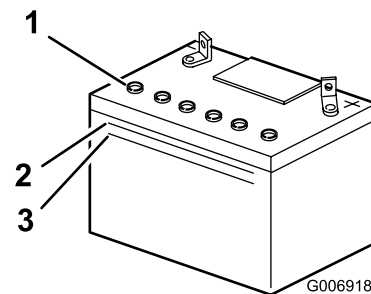

Figure 29
2. Look at the side of the battery. The electrolyte must be up to the upper line (Figure 29).
Note: Do not allow the electrolyte to fall below the lower line (Figure 29).
3. Remove the vent caps from the battery (Figure 29).
5. Wait 5 to 10 minutes after filling the battery cells. Add distilled water, if necessary, until the electrolyte level is up to the Upper line (Figure 29) on the battery case.